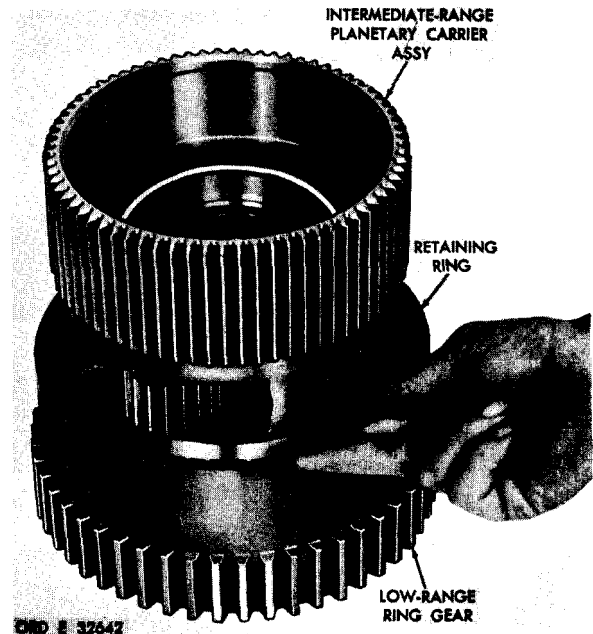

Figure 223. Removing (or installing) retaining ring that retains intermediate-range planetary carrier assembly
a. Remove retaining ring that retains the intermediate-range planetary carrier assembly in the low-range ring gear (fig. 223). Remove the carrier assembly.
***CP** l. Install the intermediate-range planetary carrier assembly onto the low-range ring gear. Install the retaining ring (fig. 223).